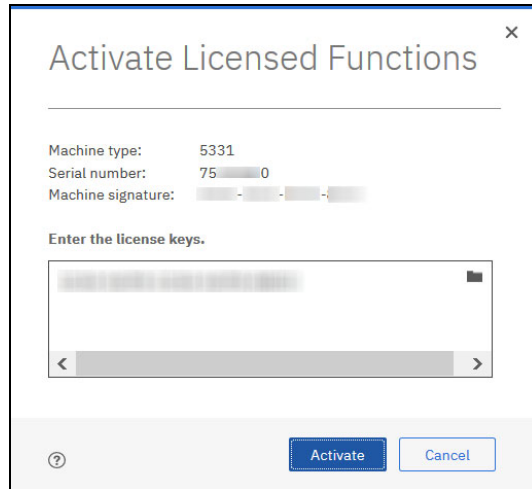

Figure 7-3 Adding the license keys
- After you enter all your license keys, click **Activate** to start the activation process, as shown in Figure 7-3.